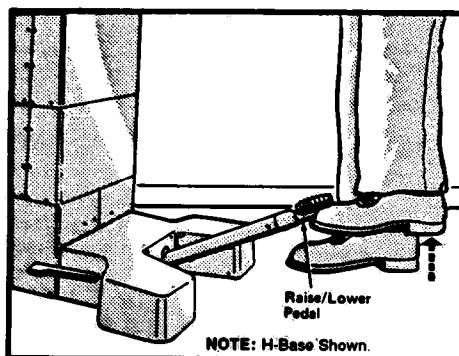

Figure 3-2. LOWERING THE SUPERSTRUCTURE.
f. After air is expelled, lower the superstructure (Figure 3-2) and replace the shrouds.